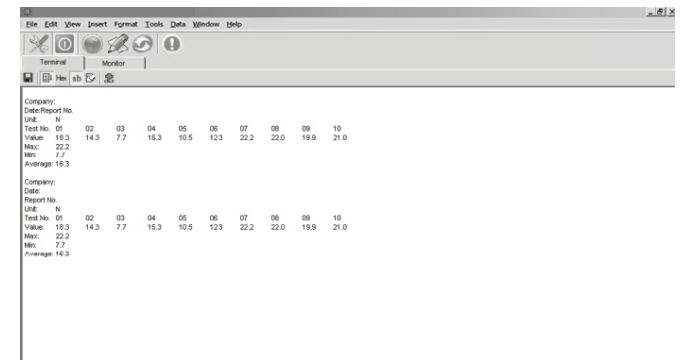

Fig.3
- E. Data can be received by pressing "print" on the gauge. Refer to Fig.3.